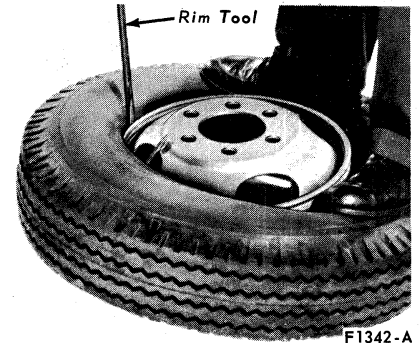

FIG. 12 Installing Tire Second Bead on Wheel
3. Starting at a point opposite the valve, press the tire bead over the rim gutter and into the well with foot pressure. Mount the remainder of the bead over the rim gutter with a tire tool, being careful not to pinch the tube (Fig. 12).